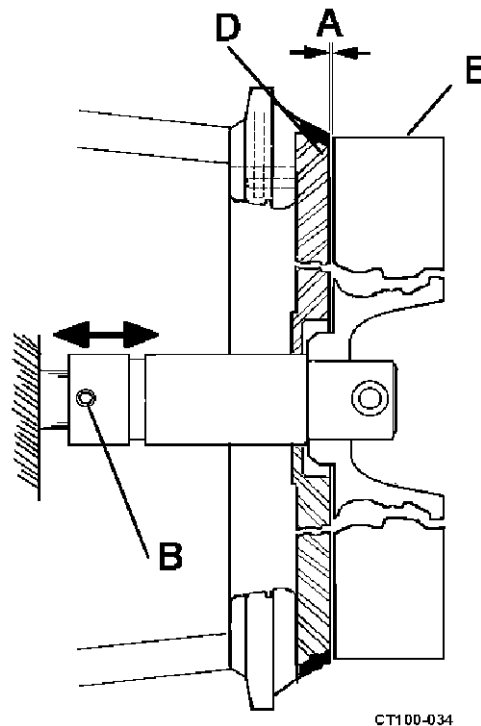

Figure 23 - Setting Backplate/Impeller Clearance
6. Slide the impeller on the shaft. Hold the impeller tight against the shoulder in the shaft and rotate the shaft one-quarter turn until the impeller pin engages with the impeller. See Figure 23.
1. Place a $0.060 \pm .010$ " (1.52 mm $\pm .25$ mm) Feeler Gauge between the front face of the backplate and the impeller. (See Figure 23 item A).
2. Push the stub-shaft/impeller assembly toward the motor until the impeller (See Figure 23 item E) rests against the Feeler Gauge.
3. Tighten the two set screws on the stub-shaft. (See Figure 23 item B).
is $0.060 \pm .010$ " (1.52 mm \pm .25 mm) (See Figure 23 item A).